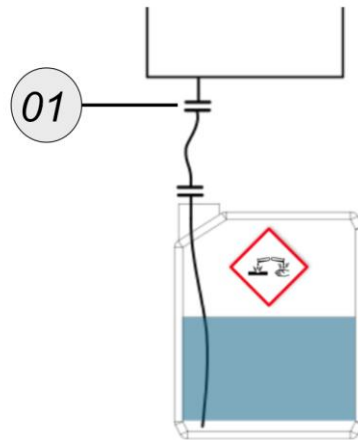

Fig. 2
- ▶ Connect the phosphoric acid canister to the H₃PO₄ Inlet (Fig. 2).